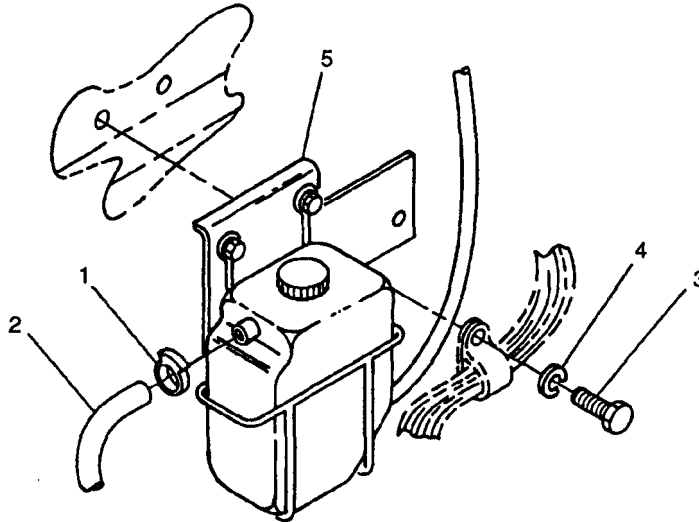

FIGURE 3-3. Overflow Bottle Assembly
- k. Loosen clamp (1, FIGURE 3-3) and disconnect hose (2) from overflow bottle assembly (5).
- l. Remove bolts (3), lockwashers (4), and overflow bottle assembly (5) from right side of engine.